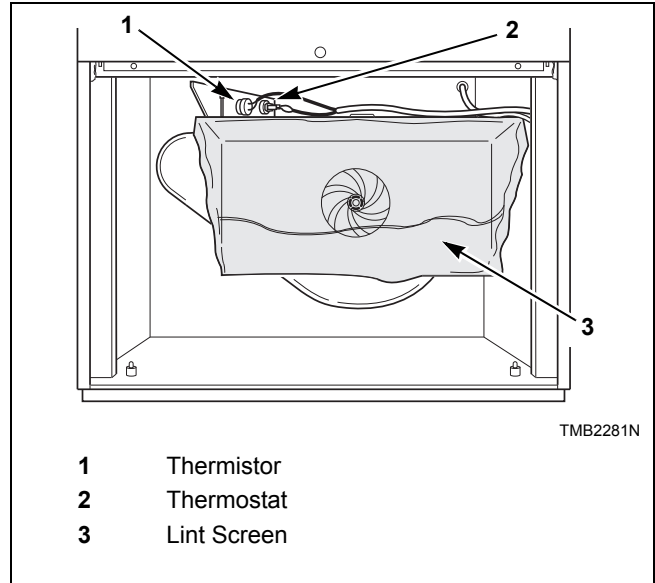

Figure 52
- e. Wipe lint off of the cabinet high limit thermostat and thermistor. Refer to *Figure 52*.